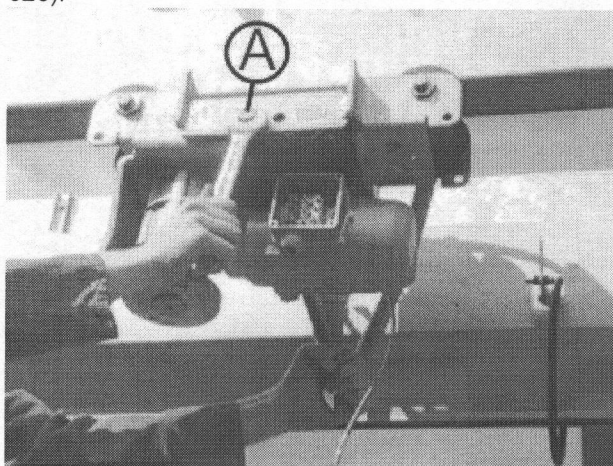

Fig. 020
5. Remove jointed cross shaft axle screw (A) and pull down geared motor fully with plate (Fig. 020).